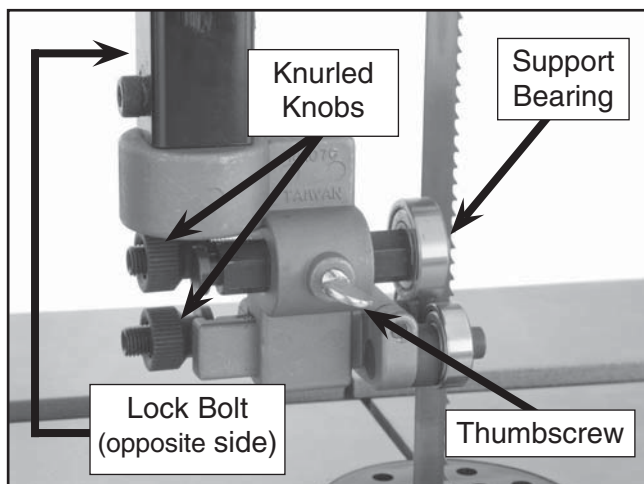

Figure 18. Support bearing controls.
3. Familiarize yourself with the support bearing controls shown in **Figure 18**.